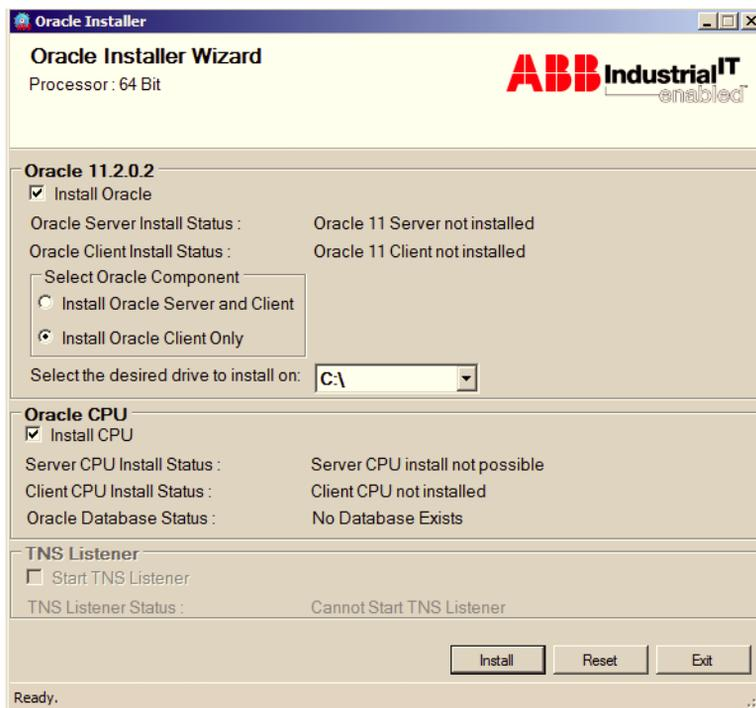

Figure 2. Oracle Installer Wizard Installing Oracle Client
2. On the Oracle Installer Wizard (Figure 2), Select **Install Oracle Client Only** to install the client.